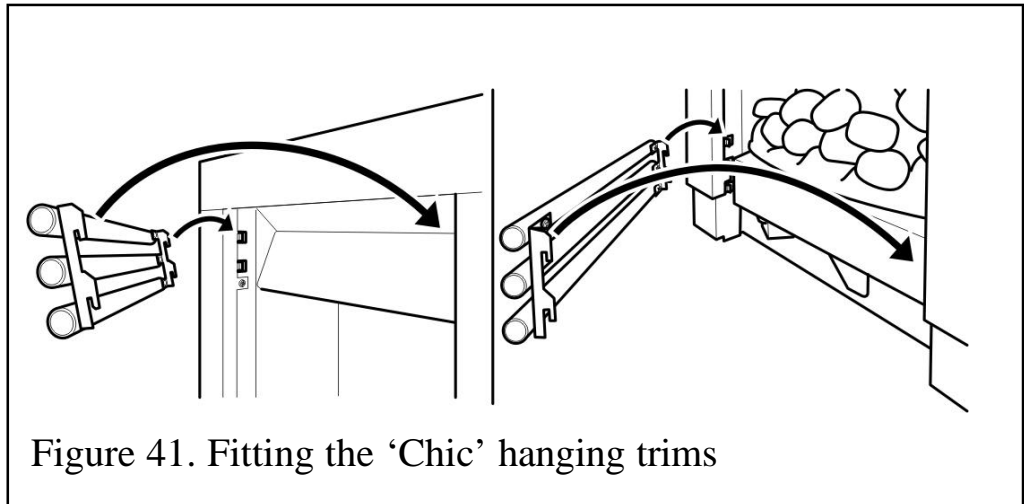

Figure 41. Fitting the 'Chic' hanging trims
4. Supplied in the fascia pack are two tubular trim sets. Hang one set at the top of the fascia and the other at the bottom (See figure 41).